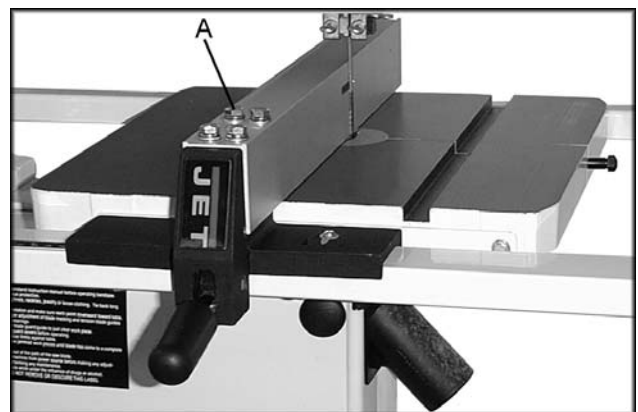

Fig. 4
5. Attach the fence to the fence body using four hex cap bolts, four lock washers and four flat washers (A, Fig. 4).